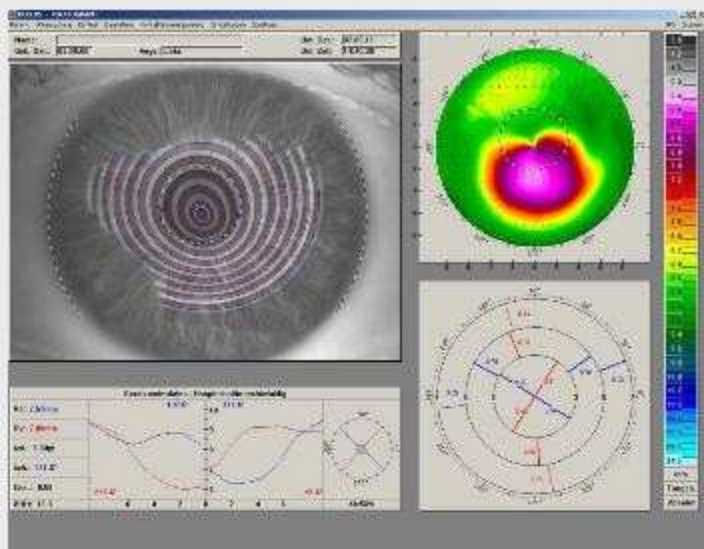

Figure 1: Topography presenting keratoconus grade 3.
Our patient, age 43, was diagnosed with bilateral keratoconus at the age of 20 (Figure 1). Previous (R)GP fittings have failed because of discomfort. As a result, the patient got along with spectacles, but complained increasingly about his insufficient visual acuity.